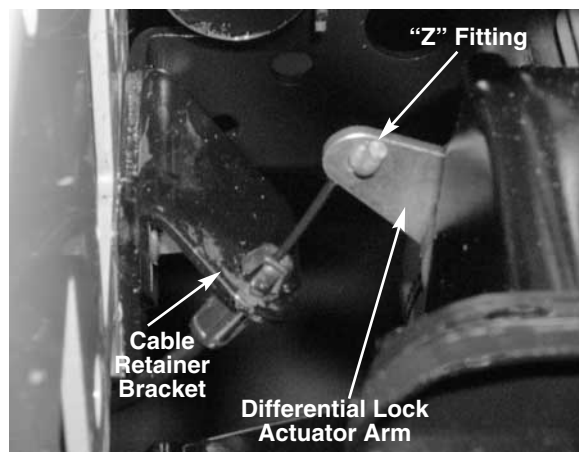

FIGURE 6.
19. Remove the "Z" fitting from the differential lock actuator arm. See figure 6.